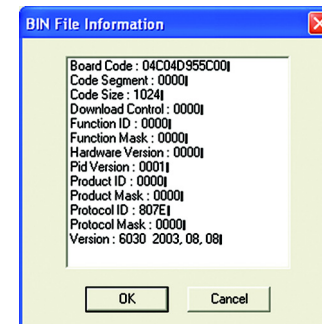

Figure 7-22: BIN File Information
- 4 View the *BIN File Information* screen (see Figure 7-22), and click the **OK** button if you have selected the correct firmware file. Click the **Cancel** button to select a different firmware file.